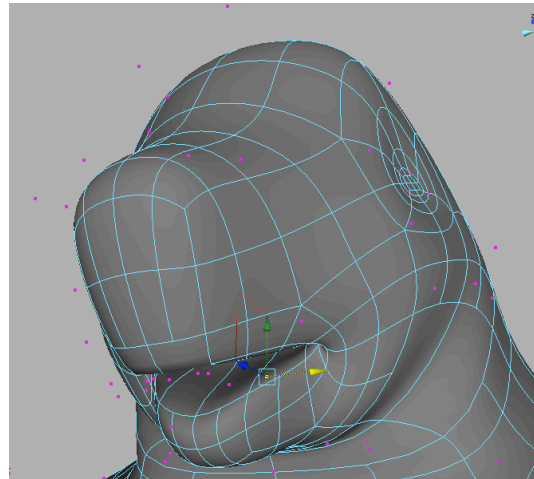

Figure 25: The snout is narrowed using the move tool on the vertices.
6. Switch to the perspective view and move the vertices on the face to narrow the snout, use figure 25 as a reference. The vertices on the opposite side of the face should reflect the changes if the reflection settings in the Move tool options are activated.